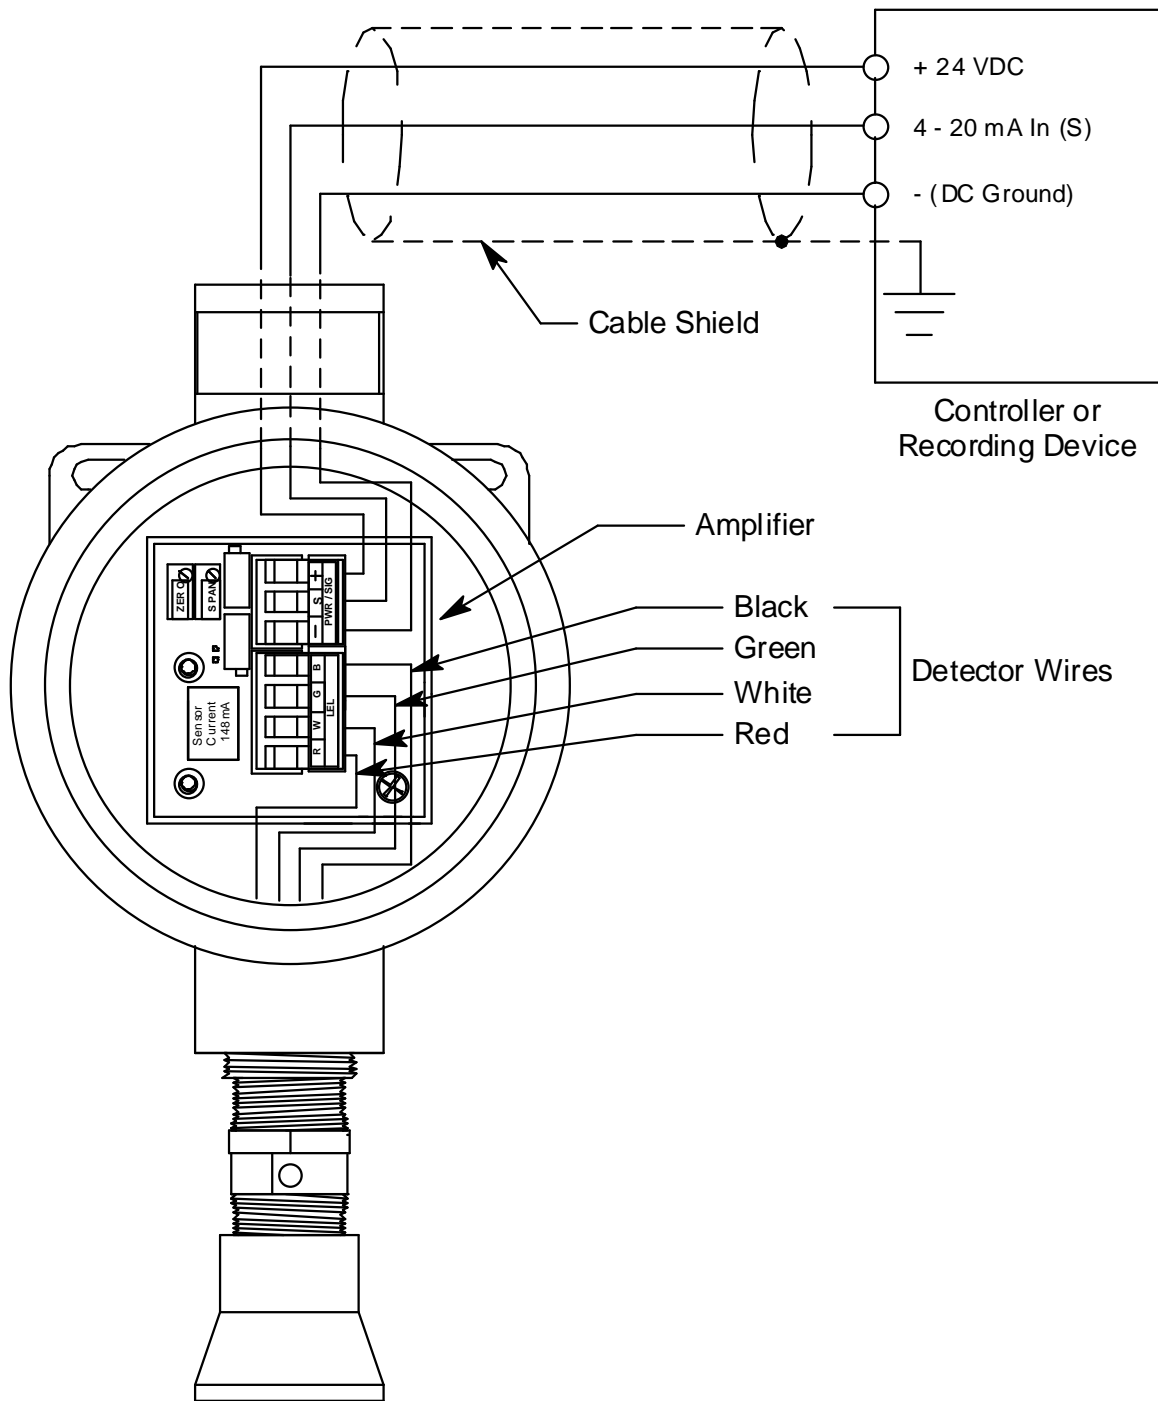

Figure 3: Wiring the Combustible Gas Transmitter to a Controller
4. The detector leads are factory wired. Verify that the detector leads are wired to the amplifier's detector terminal strip as shown in Figure 3.
7. Pull out the controller terminal strip, and connect the three wires to the terminal strip as follows (see Figure 3).
11. Connect the wires to the applicable detector/transmitter terminal strip at the controller as shown in Figure 3
8. Connect the detector leads to the detector terminal strip as shown in Table 3 below and Figure 3 on page 6 of this manual.
8. Install the detector and controller terminals strips into their sockets on the new amplifier as shown in Figure 3 on page 6 of this manual. If controller leads or detector leads were removed during this procedure, refer to Table 4 and Table 5 below.